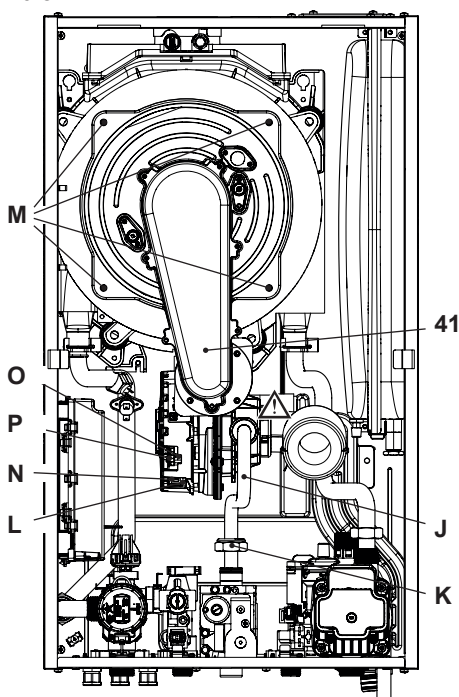

Fig. 10.8
Removing the fan burner unit 41 in Fig. 10.8.
- Insert a flat screwdriver in the connector recess **L** and lever towards the bottom, disconnect the connector at the same time **N** by pulling towards the front **N** (Fig. 10.8).
- Disconnect the fan connector **O** by pressing the plastic hook **P** positioned at the bottom part of the connector (Fig. 10.8).
burner unit 41 (Fig. 10.8)